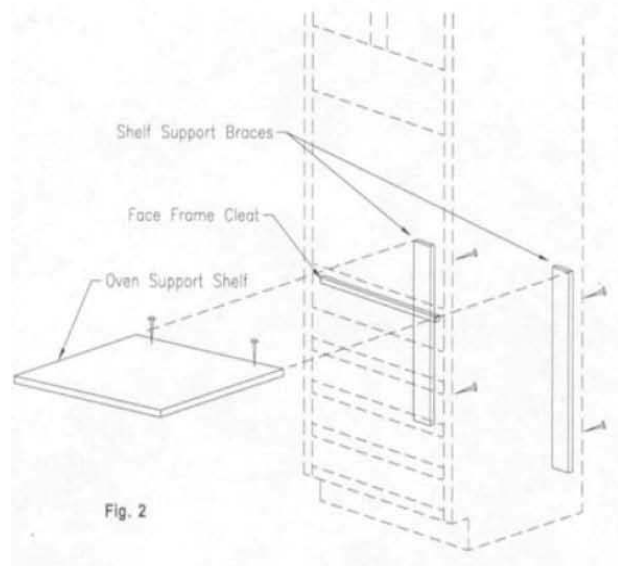

Fig. 2
**STEP 4** Measure from the inside bottom of the cabinet bottom up to the top edge of the cleat attached to the back of the 6" frame rail. Use this measurement to cut the back shelf support braces to the desired length (see figure 2).